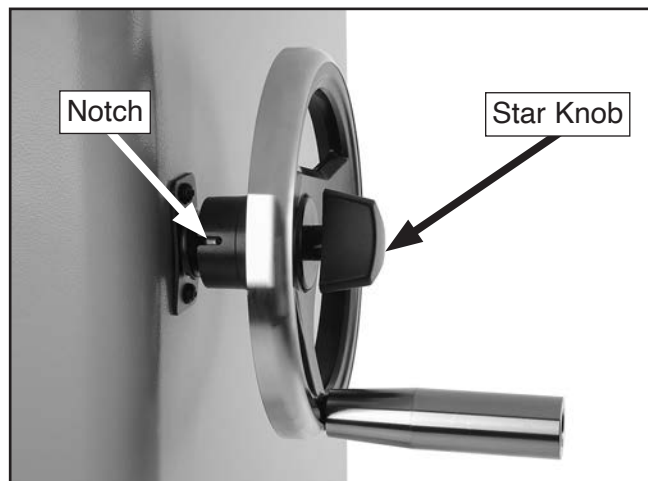

Figure 23. Handwheel installed.
13. Install handwheels on shafts, making sure notch in each wheel fits over pin on each shaft, and secure with star knobs, as shown in **Figure 23**.